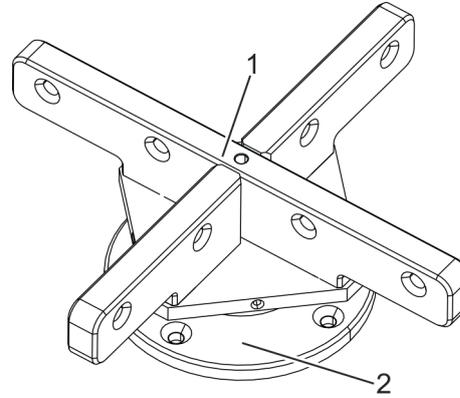

Fig. 91 Cross fitting on floor bearing
8. Place the lower cross fitting (Fig. 91) on the floor bearing (Fig. 91).